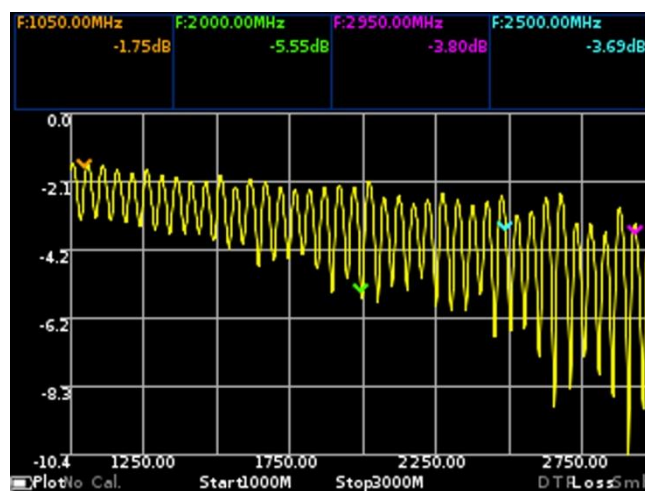

Figure 10.14 – Plot of measurements of cable losses
10.8.1. Cable loss is dependent on signal frequency. The higher the frequency, the greater the loss. Usually, cable manufacturers indicate the loss of their cables at one or more frequencies. To determine losses for a specific frequency range or when using a cable whose losses are unknown, a cable loss determination plot is used (Figure 10.14). On the device screen, the plot is displayed as Loss.